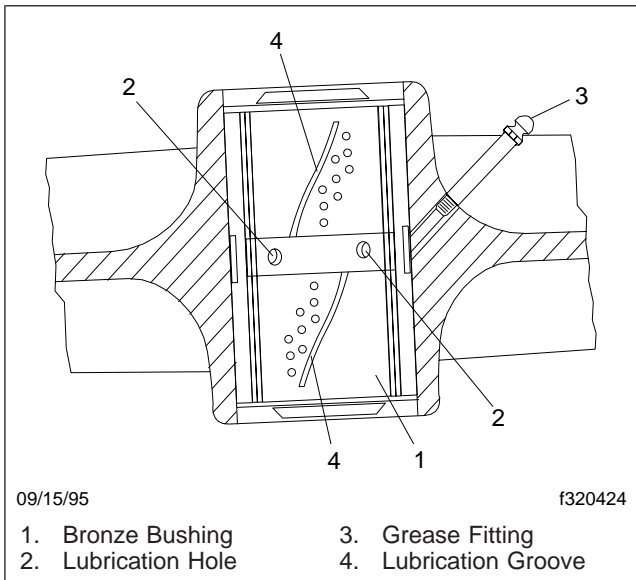

Fig. 22, Hendrickson RT2 and RTE2 Series Bushing Lubrication
3. Using a multipurpose chassis grease, lubricate the bronze, ball-indented bushings in the spring eyes at the grease fitting. See Fig. 22. Continue